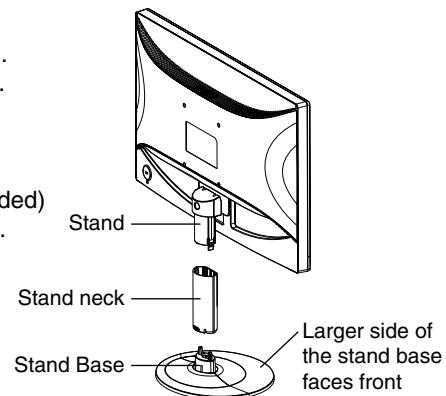

Figure 1
1. Attach the Stand neck to the monitor. And then, attach the Base Stand to the Stand. The locking tabs on the Base Stand should fit into the hole on the Stand (**Figure 1**).